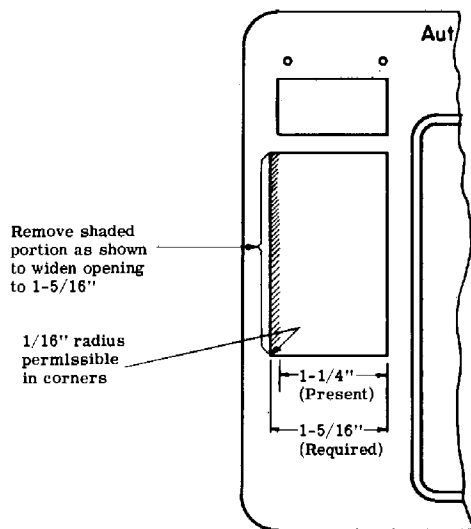
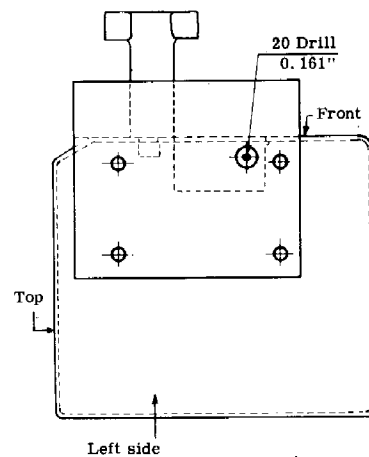

Figure 6.
Figure 7.
- (1) Coin-return opening on older paystations will require widening to accommodate the anti-stuffing device. If opening is 1-1/4 inches, mill the opening to 1-5/16 inches (see Fig. 6).
- (2) Place lower housing on its right side (right side as paystation is normally viewed from front).
- (3) Place drill jig (P-70294) on lower housing in coin-return opening and clamp tight as shown and according to the instructions in Fig. 7.